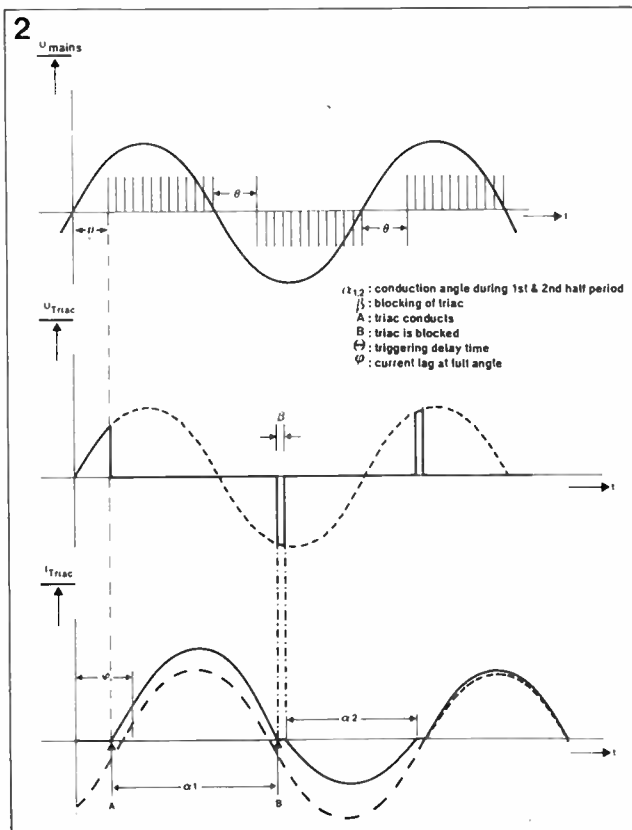

Fig. 2 Triggering by a pulse train synchronized with the mains voltage.
Figure 1c shows a slightly more complex triac control circuit. Following the trigger pulse, additional pulses are generated up to the next zero crossing of the mains voltage. The operation of the circuit is illustrated in timing diagram Fig. 2. Assuming a phase difference, φ , of 85° between the mains voltage and the load current, and a gate angle, Φ , of 60°, the triac is triggered after the trigger delay has lapsed (A), and remains on up to about 240° (B) thanks to the pulse train. It is blocked at point B, but is immediately retriggered by the next repetitive gate pulse. The operation is slightly asymmetrical during the first half periods, but the duration of conduction gradually becomes more balanced, as shown by the dotted curve.
$(R4 + P2 // R3 + P1)$. Once more consult the timing diagram of Fig. 2 for further details on the operation of the circuit. Zener diodes D5...D8 incl. afford protection against over-voltage, and at the same time ensure a stable supply voltage for the trigger circuit, eliminating instability due to fluctuations on the mains. Diodes D1...D4 incl. and resistors R1 and R2 ensure that C1 is completely discharged during the zero crossings, so that the hysteresis remains within acceptable limits. Damping network C2-R7 has a stabilizing effect on the control circuitry because it suppresses needle pulses originating from the inductive load when this draws less than the holding current of the main triac.